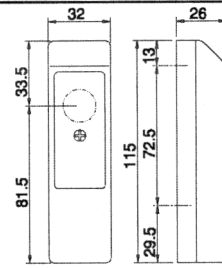

FIG.1
3) FITTING - They should be aligned and mounted at a height between 40 and 60 cm from the ground. The surfaces used for fastening should be flat and parallel to each other. Mounting on pillar (fig. 1). Mounting on CF130 post (fig. 2). If two pairs of photocells are mounted near each other, cross the RX-TX positions (fig. 3).